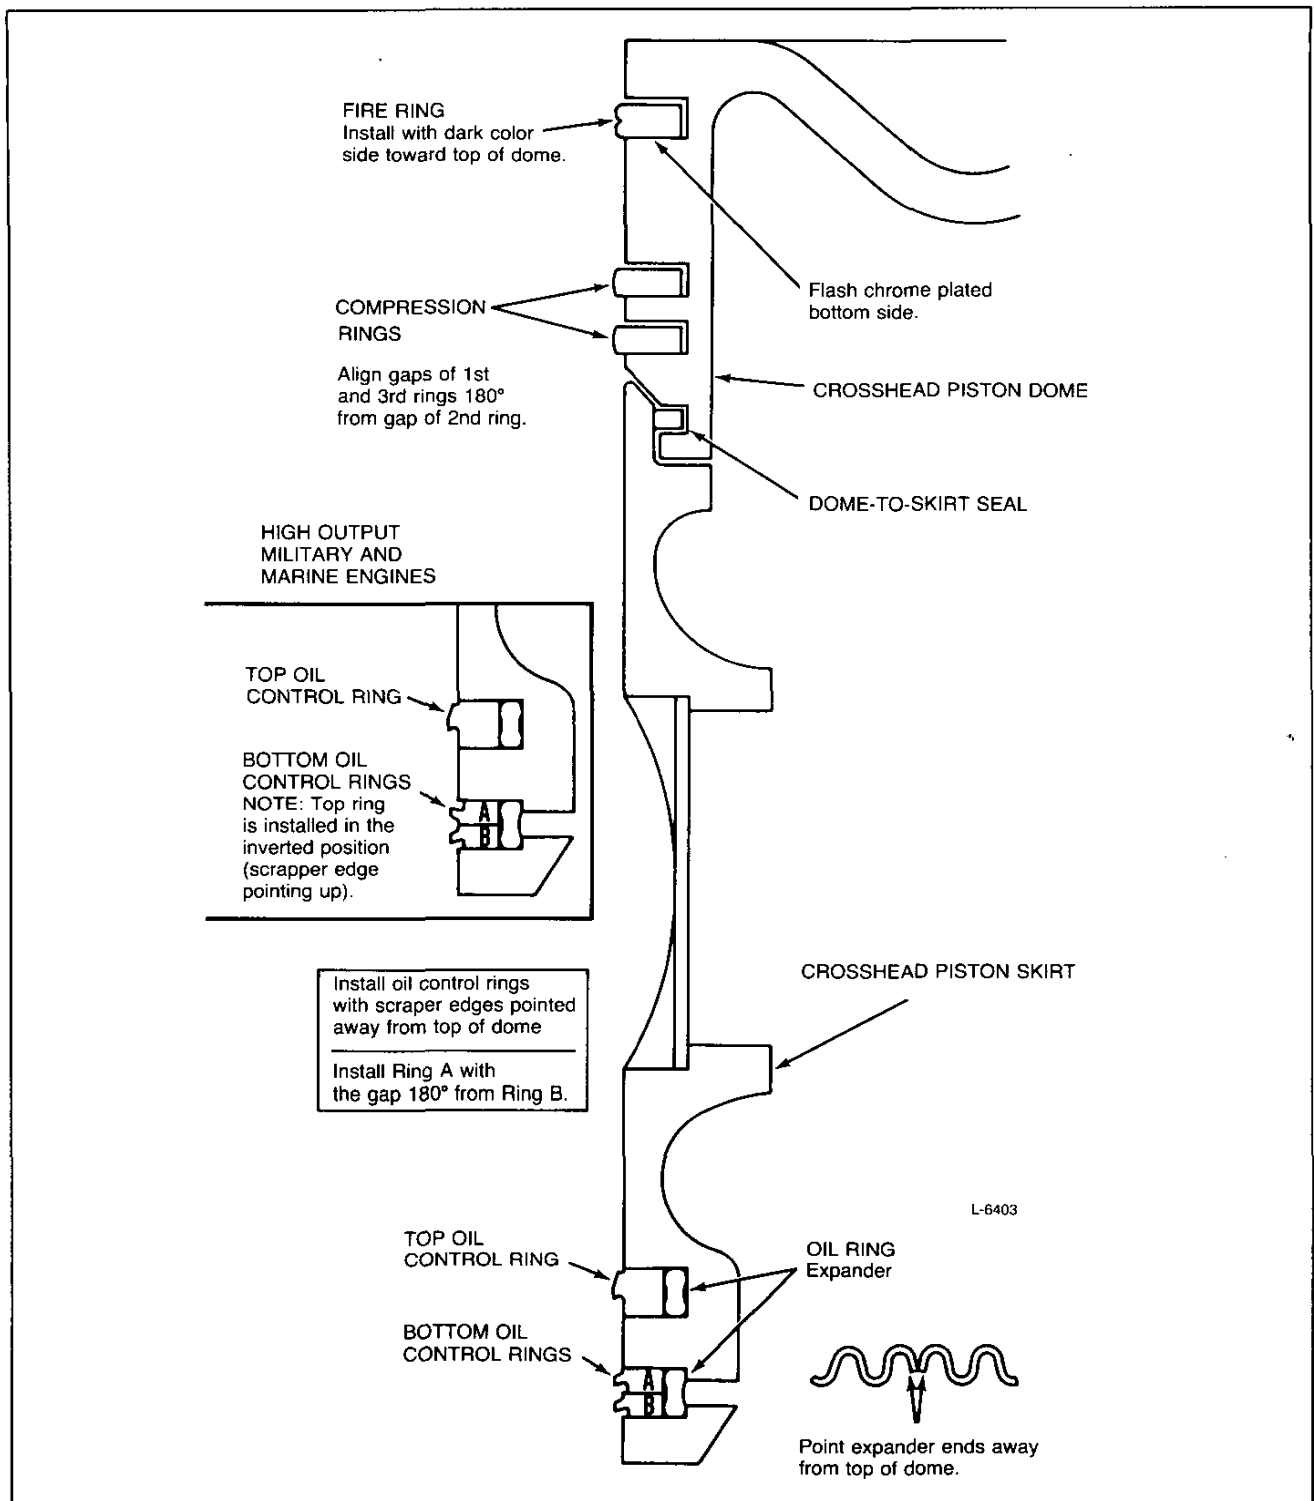

Fig. 22 – Piston Ring Installation Instructions
A one-piece oil control ring in the upper ring groove and a two-piece ring in the lower ring groove are used in the cross-head pistons for *turbocharged* engines (Fig. 22).
1. Starting with the bottom ring, install the compression rings with tool J 8128 (Fig. 13). To avoid breaking or overstressing the rings, do not spread them any more than necessary to slip them over the piston. Refer to Fig. 22 for ring identification and location.
Refer to Fig. 22 for the type and location and install the oil rings as follows:
2. Install the oil control rings by hand. Start with the top oil ring and align the gaps as indicated in Fig. 22. The scraper edges of all oil control rings must face downward (toward the bottom of the piston) for proper oil control, except on high output military and marine engines (Fig. 22).